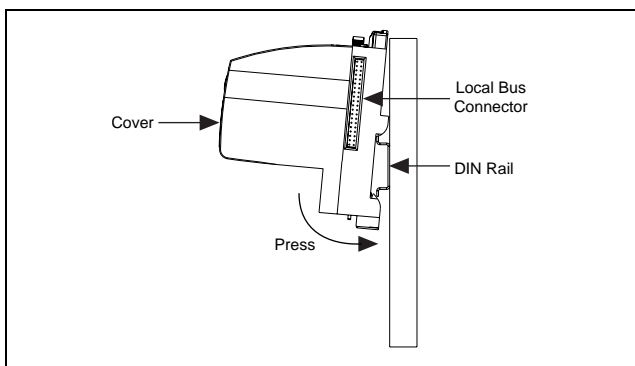

Figure 2. Installing the Network Module onto a DIN Rail
2. Hook the lip on the rear of the FP-1000 onto the top of a 35 mm DIN rail and press the FP-1000 down onto the DIN rail as shown in Figure 2.